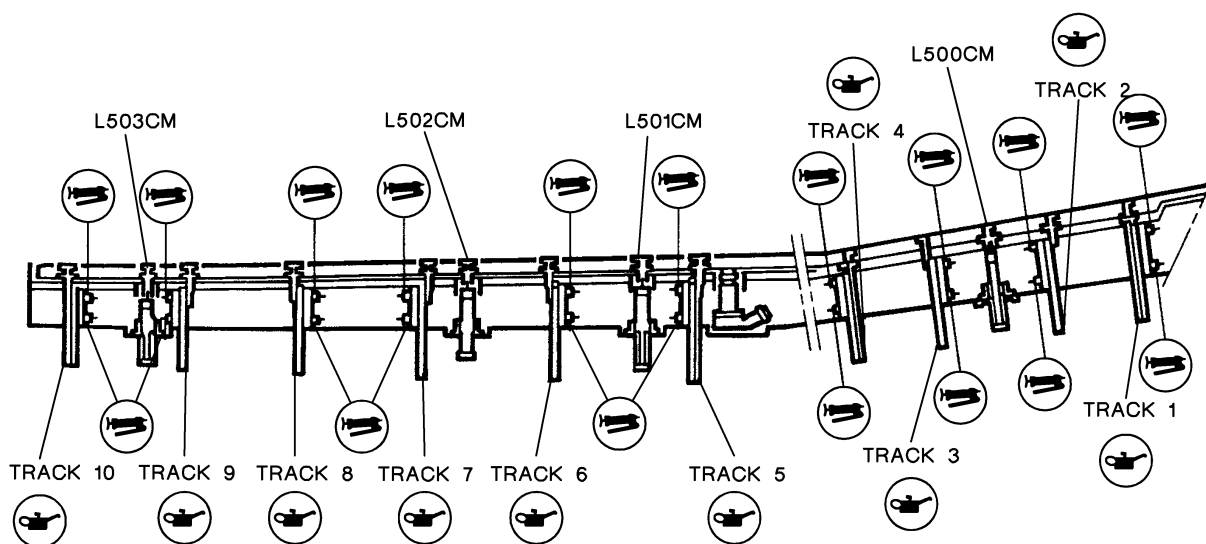
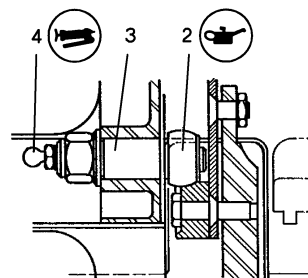

Figure 1: Lubrication of Slat Mechanism
Figure 4: Greasing/Lubrication of Outboard Slat Rollers
Refer to **fig. 1** and **fig. 2**
- A. Using a dry and clean lint-free cloth, clean the sliding rods of each slat actuator (**fig. 1**):
- B. Using a cloth moistened with white spirit P-D-680B, clean the slat tracks (from track 1 to track 10) (**fig. 1**).
Refer to **fig. 1**, **fig. 2**, **fig. 3** and **fig. 4**
Using a lint-free cloth moistened with **hydraulic fluid**, lubricate the sliding rods of slat actuators (**fig. 1**):
Using an oil can filled with lubricating oil, lubricate the slat tracks (from track 1 to track 10) (fig. 1).
- accessible track rollers (2) (fig. 3 and fig. 4, DETAIL J),
- anti-slope rollers (1) (fig. 3 and fig. 4, DETAIL H).
(2) Greasing of track roller pins
Using a grease gun filled with synthetic grease, grease track roller pins (3) via nipples (4) (fig. 3 and fig. 4, DETAIL J).